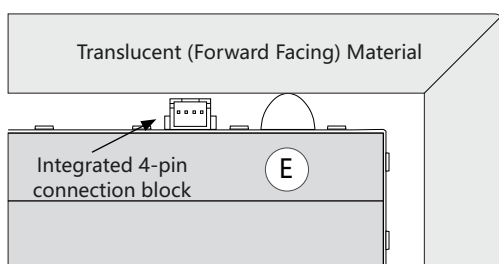
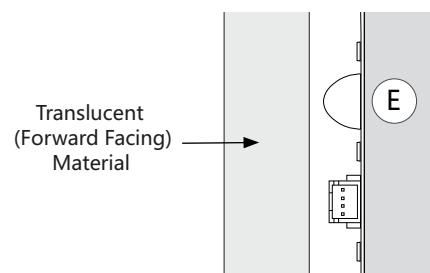

Figure 4
Figure 5
Domed spacing bumpers (E): The domed spacing bumpers (E) included with each Light Sheet have been engineered to bear the weight of translucent materials in horizontal applications and act as a safeguard in vertical applications so that the forward facing material does not harm the 5-pin connection blocks nor the LEDs. recommends using eight bumpers per Light Sheet (approximately six per square foot), spacing them evenly to distribute the weight of the forward facing material (see Figure 4) and to add a level of protection in vertical applications when the forward facing material will be positioned near the Light Sheet (see Figure 5).